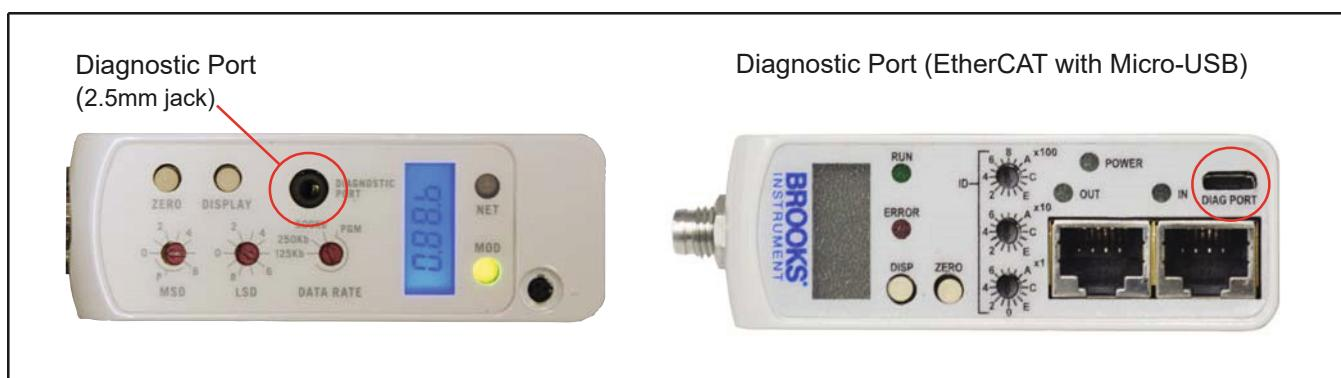

Figure 2-13 Diagnostic Port Locations
Connect the MultiFlo Cable Adapter 2.5mm jack to the Diagnostic Port on the top of the device. See Figure 2-13.
- Once use of the diagnostic port is complete, remove the micro-USB cable before removing power from the device. See Figure 2-13 below